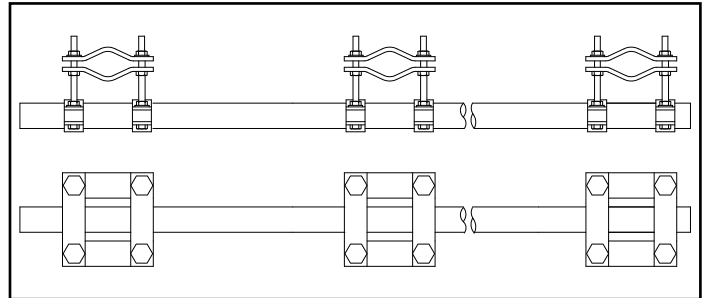

Figure 1. DSH6H3P Adjustable Side Mount Kit.
- DSH6H3P (Figure 1 & 3) is an adjustable side mount kit that mounts across the face of the tower. This kit includes two 10-foot sections of pipe and six clamp assemblies.